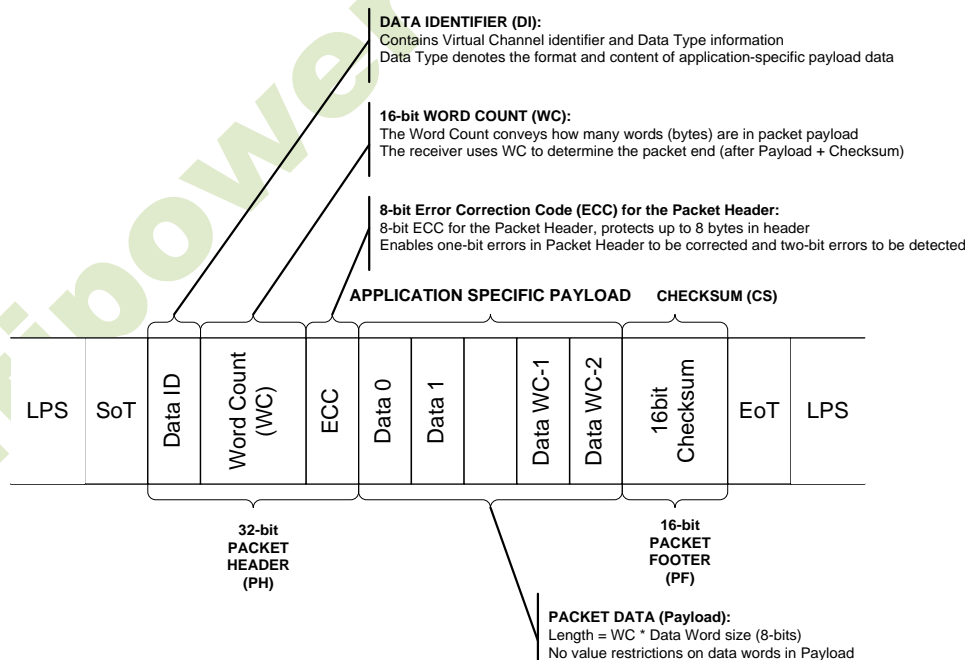

Figure. 7.8 Long Packet Structure
Figure 7.8 shows the structure of the Long packet. A Long packet shall consist of three elements: a 32-bit Packet Header (PH), an application-specific Data Payload with a variable number of bytes, and a 16-bit Packet Footer (PF). The Packet Header is further composed of three elements: an 8-bit Data Identifier, a 16-bit Word Count, and 8-bit ECC. The Packet Footer has one element, a 16-bit checksum. Long packets can be from 6 to 65,541 bytes in length.